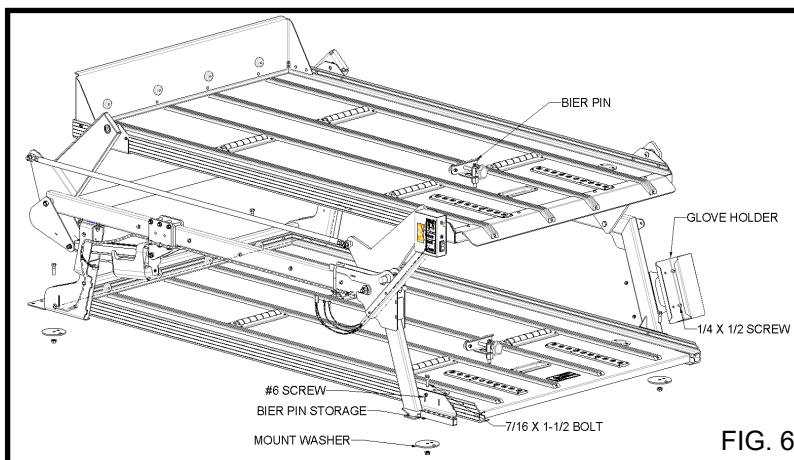

FIG. 6
6.21 Mount the bier pin storage mounts in a location that does not interfere with the operation of the DD2000. Secure each mount using (3) #6 screws. (FIG.6)